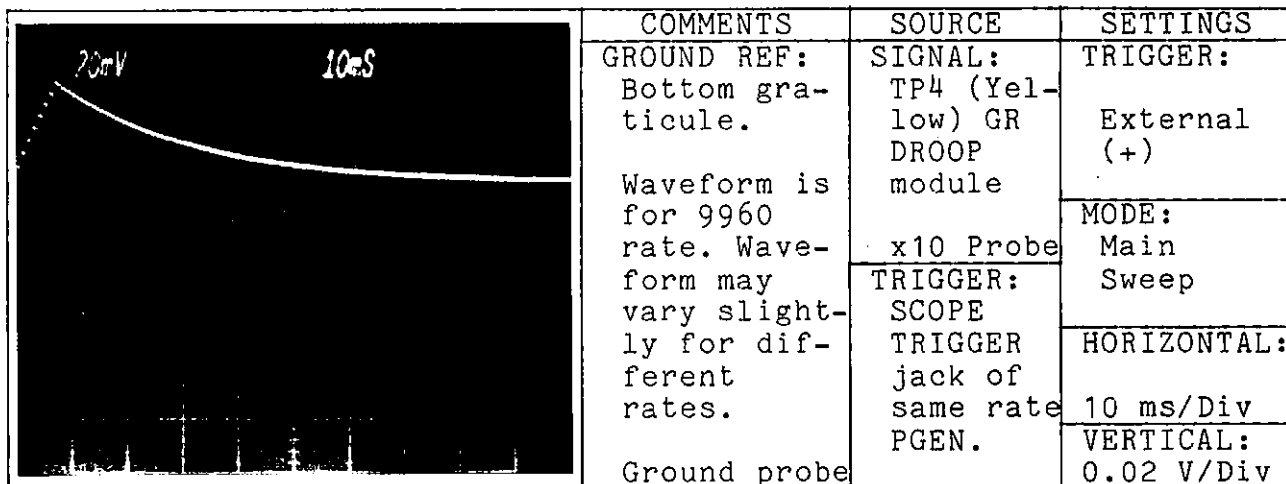

Figure 2.26. Same Rate Ladder Waveform
j. Adjust R5 counterclockwise until a ladder waveform appears (see Figure 2.26) and its peak reaches +1.4VDC. Adjust R10 clockwise until the decay of the ladder waveform reaches the DC Reference level recorded in step f. just before the start of the next ladder waveform. While adjusting R10, it will be necessary to readjust R5 to maintain the peak of the ladder waveform at +1.4VDC.